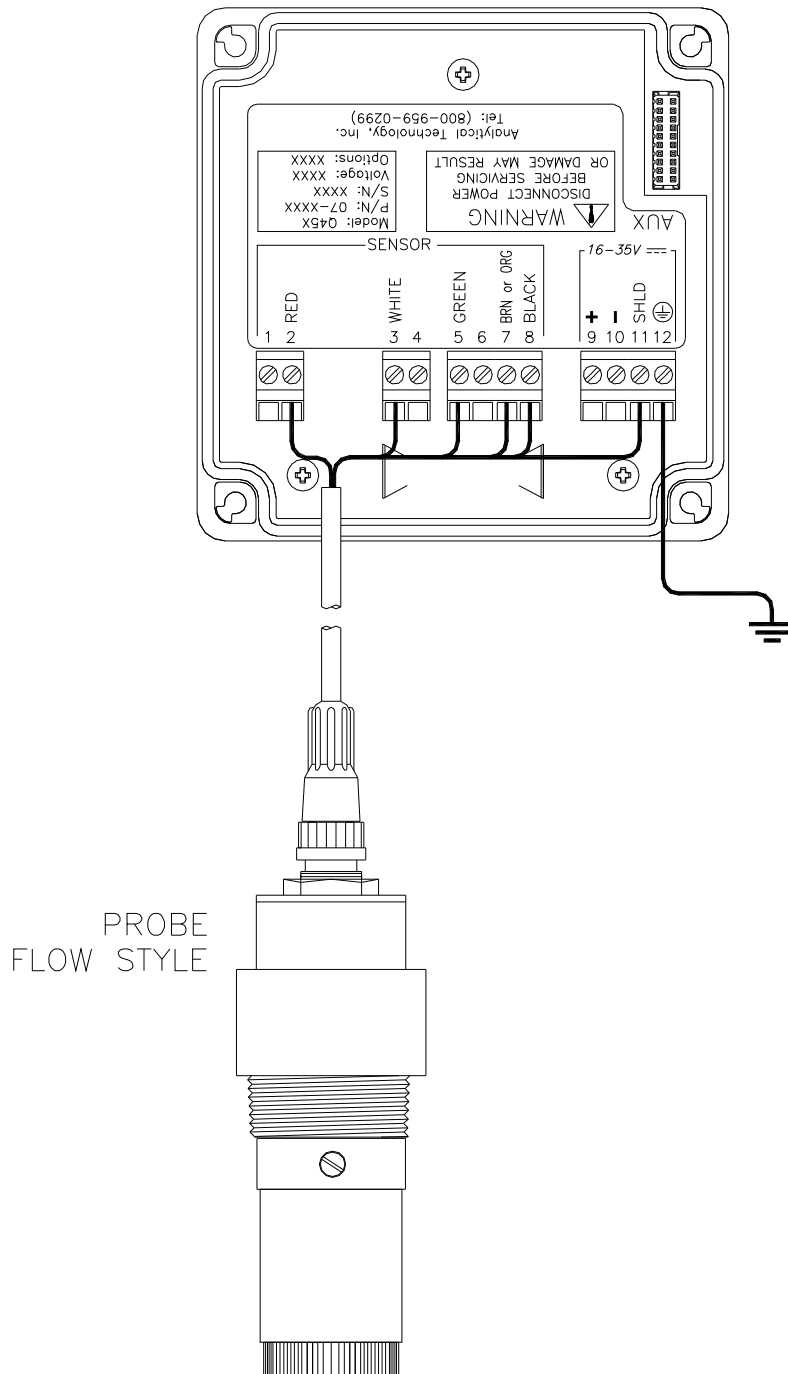

Figure 8 - Loop Power Connection
1. Use wiring practices that conform to all national, state and local electrical codes. For proper safety as well as stable measuring performance, it is important that the earth ground connection be made to a solid ground point from terminal 12 (Figure 8).
Sensor connections are made in accordance with Figure 8. The sensor cable can be routed into the enclosure through one of cord-grips supplied with the unit. Routing sensor wiring through conduit is only recommended if a junction box is to be used. Some loose cable is needed near the installation point so that the sensor can be inserted and removed easily from the flowcell.